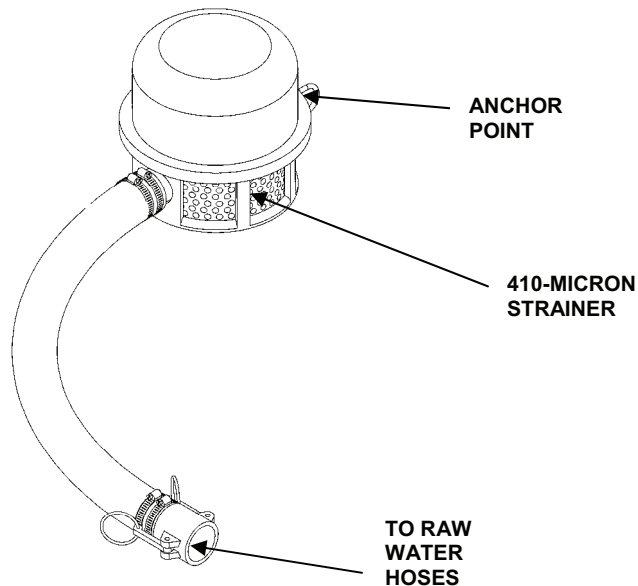

Figure 12. Raw Water Intake Strainer.
2. Attach the raw water intake strainer (410 microns) to the raw water hoses (grey) on the end. See Figure 12.